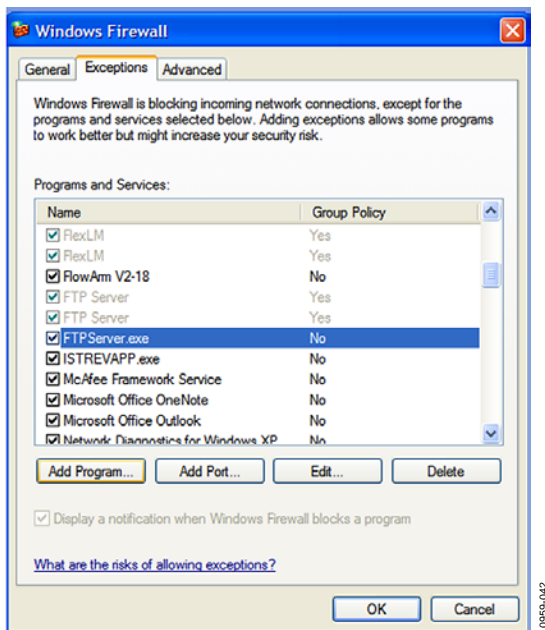

Figure 42. Allow FTPServer.exe Through Windows Firewall
- a. If using Windows XP or Windows Vista, click **Start > Control Panel > Windows Firewall > Exceptions > Add Program** and select **FTPServer.exe** from the list of programs and services (see Figure 42).
- b. If using Windows 7, click **Start > Control Panel (All Control Panel Items) > Windows Firewall > Allow a program or feature through Windows Firewall > Change settings**. A dialog box opens asking if you want to allow Windows Firewall to make changes to the computer. Click **Yes**, and then click **Allow another program** and select **FTPServer.exe** from the list of programs and services (see Figure 42).